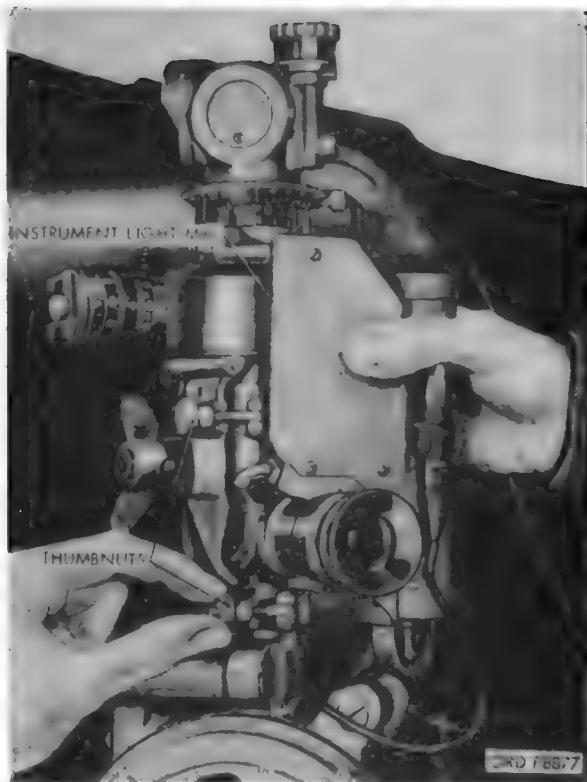

Figure 35. Installing instrument light M34 on telescope socket.
c. *Instrument Light M34.* The instrument light M34 (fig. 35) is used for illuminating the reticle of the panoramic telescope M12A7C during night operation.